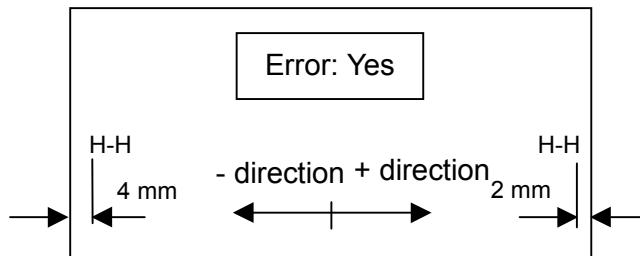

Figure 5-223
5) In the case of an error of several mm, perform correction. In the situations shown in Figure 5-223, correction of "-4 mm" on the leading edge side, and correction of "+2 mm" on the trail edge side, are required. To move to the left, use "- (minus)".